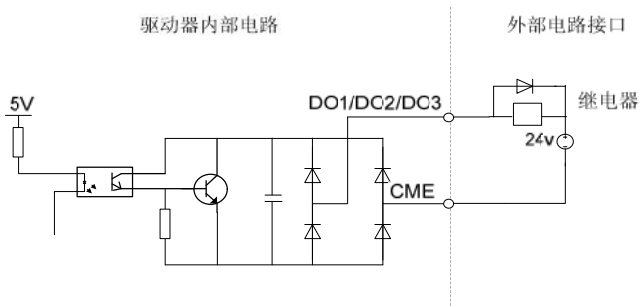

Fig. 2-9 Connection Method I Using Servo External Power Supply
1) For AI1/AI2 analog voltage input, the connection mode using a $\pm 10V$ internal power supply of the servo driver to connect to an external potentiometer is as shown in Fig. 2-9.